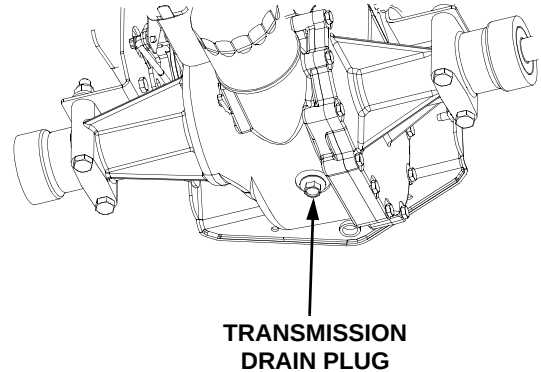

Figure 24
2. Clean the area around the transmission drain plug to prevent debris from entering the transmission case. Remove the drain plug and allow the transmission oil to drain into a clean container having a capacity of more than 6 quarts. Reinstall the drain plug (Refer to Figure 24).